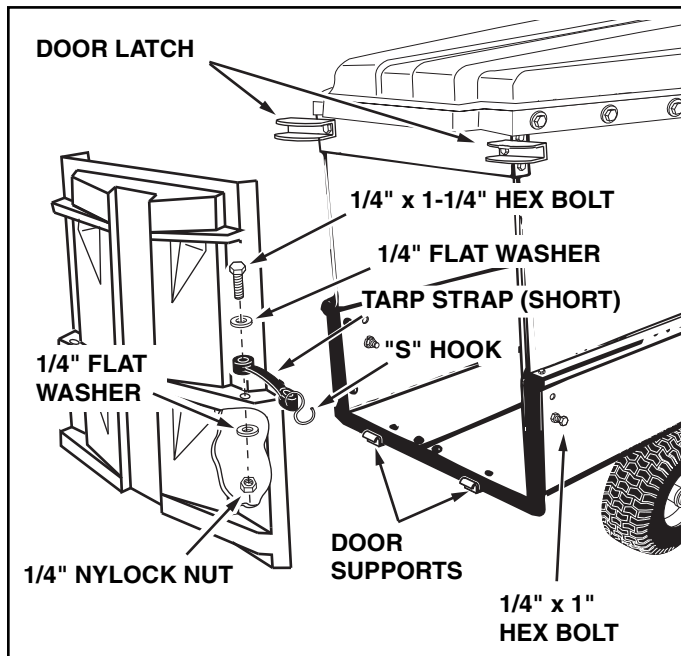

FIGURE 15
- Assemble a short tarp strap to rear door using one 1/4" x 1-1/4" hex bolt, two 1/4" flat washers and one 1/4" nylock nut. Assemble an "S" hook through loose end of strap. See figure 15. Repeat on other side of door.
- Assemble door to rear of cart by resting bottom of door on door supports and pushing top of door in against cross brace. Secure top of door using door latches on each side. See figure 15.
- Hook both the tarp straps onto the 1/4" x 1" hex bolts in the sides of the cart. See figure 15.